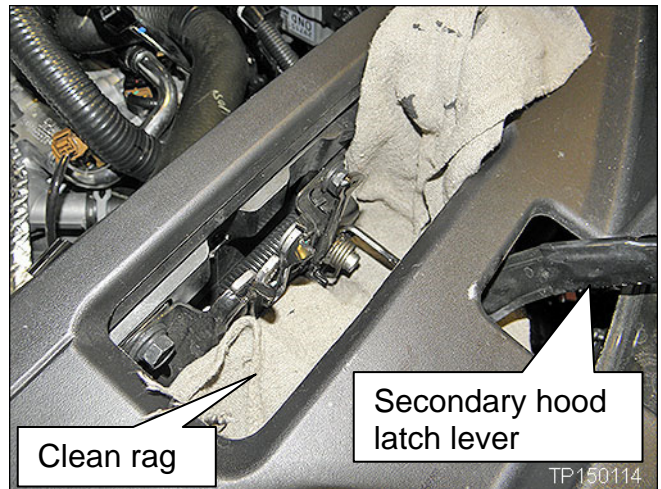

Figure 1
2. Place a clean rag under the hood latch assembly as shown in Figure 1.